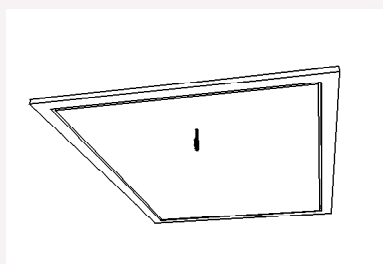

fig 19
14. Fix a suitable architrave around the lid leaving a 2-3mm gap or fit "J" channel for flush finish (figure 19).